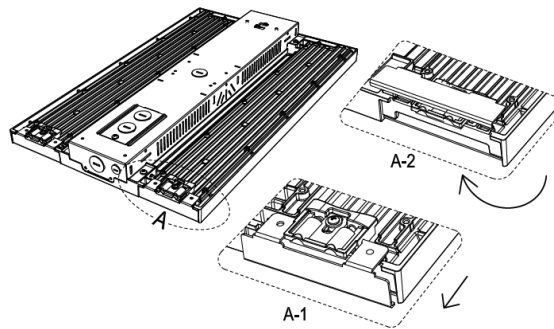

Figure 1
**STEP 1:** Push the retaining clasp with your finger to open the lens retaining plate in a rotating manner so that it falls into the slot of the heatsink. See Figure 1.